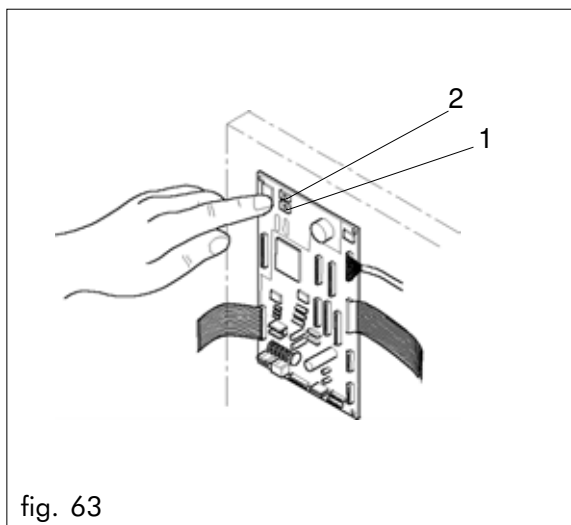

fig. 63
The programming function is accessed by pressing the button 1 positioned on the C.P.U. board (fig.63); the request of the access code to be entered by means of the keypad, will appear on the display.
Once the parameter modifications are concluded, you can exit from programming mode by pressing again the key 1 on the C.P.U. board (fig.63).
If you are in SERVICE mode, first, go to SELECTION, pressing key 2 (fig.63) then go to PROGRAMMING, pressing key 1 (fig. 63).
To exit from the programming mode press "PRG" until one of the above listed functions appears, then press the programming key placed on the C.P.U. board (key 1, fig.63) to return to the selection mode.